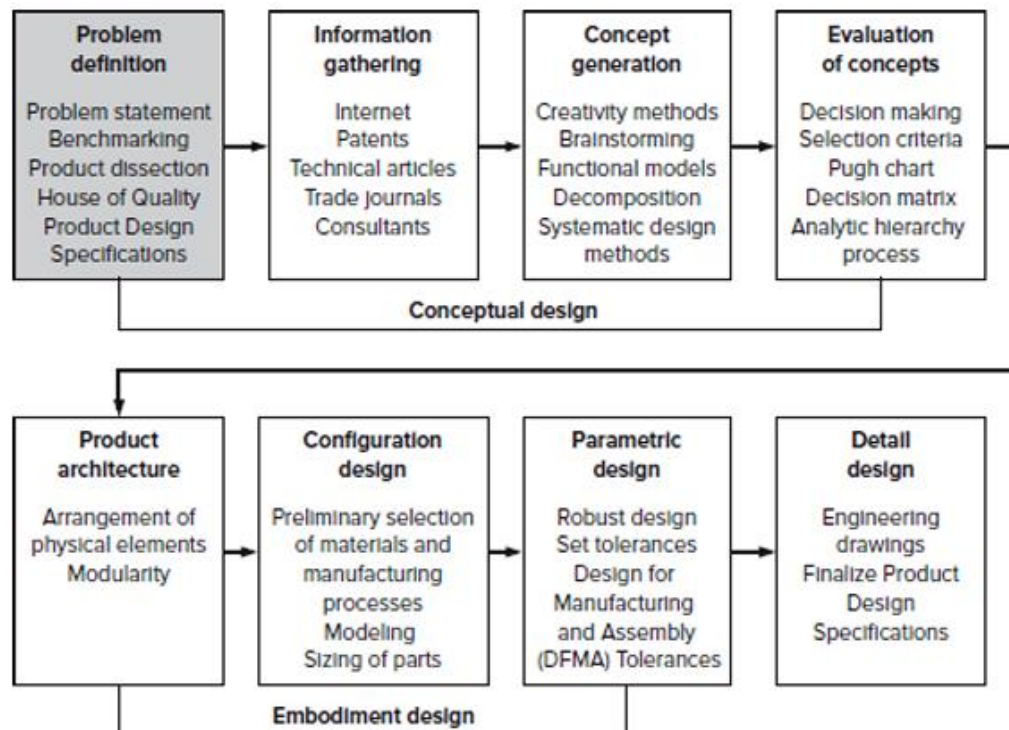

FIGURE 5.1 The engineering design process showing problem definition as the start of the conceptual design process.
- **Figure 5.1** illustrates how problem definition serves as the starting point of the **conceptual design process**.
The **Product Development Process (PDP)** (as shown in **Figure 5.1**) provides a structured approach to developing a **clear and comprehensive design specification**.